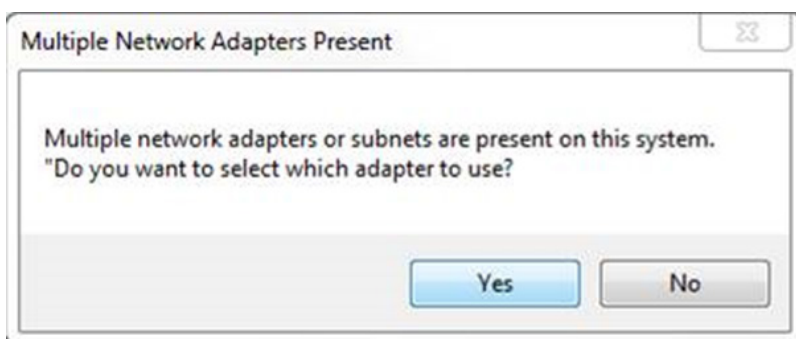

Figure 32 Prompt if Computer has Multiple NIC cards
4. If the computer has multiple NIC cards, you might see a prompt similar to the prompt shown in Figure 32. Select **Yes**.